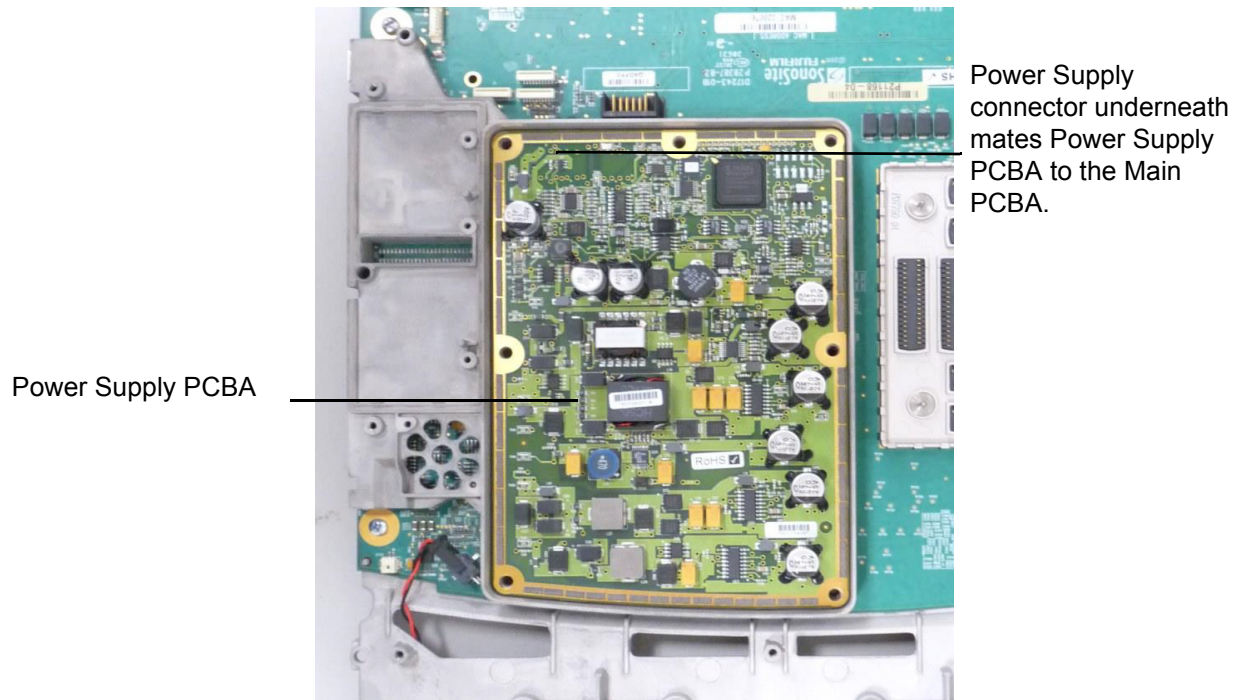

Figure 6.17 Power Supply PCBA
- 2 Gently lift the Power Supply PCBA and Power Supply Shield away from the Main PCBA as shown in Figure 6.17 (The Power Supply PCBA connector is in the upper left corner. Removing the Power Supply PCBA without also removing the shield is difficult).